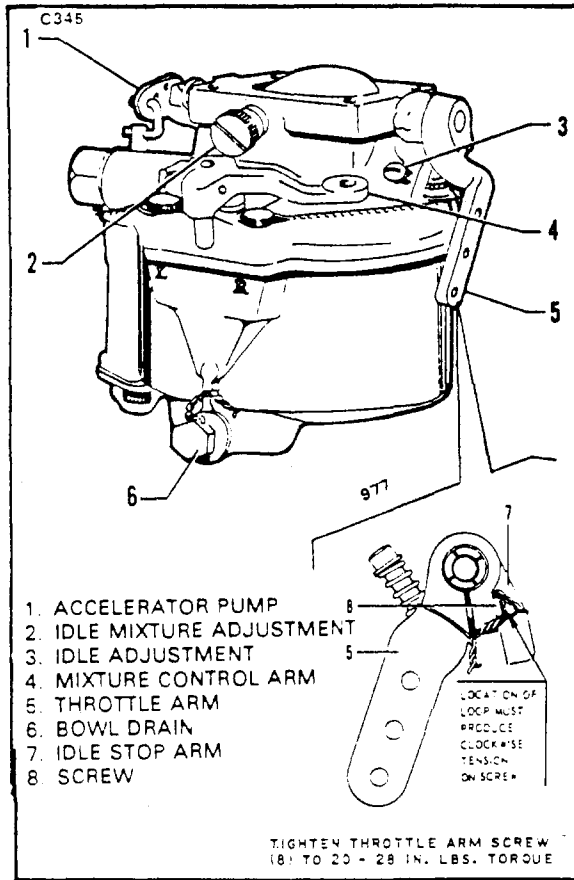

Figure 8-11. Carburetor
- d. Clean the fuel inlet screen. (Refer to Figure 8-11 or 8-12.)
e. Using .032 inch diameter safety wire, first tie the wire to the idle stop lever and then continue as shown in Figures 8-11 and 8-12.
8-29. ADJUSTMENT OF IDLE MIXTURE. (Refer to Figures 8-11 and 8-12.)